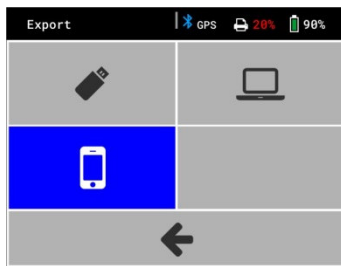

Figure 27
- Select within measuring instrument under menu measured data  / export  the transfer mode  (Figure 27) and confirm with  key.